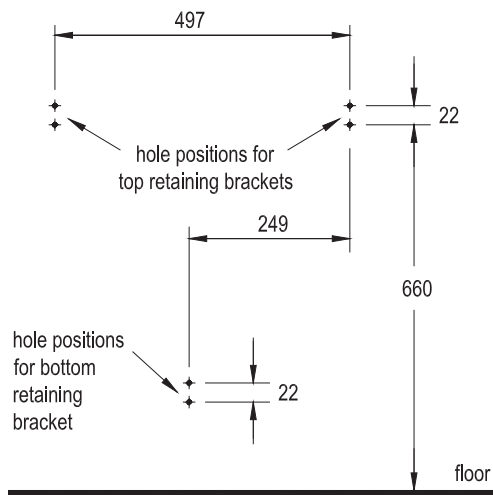

Fig. 3
2. **Fig. 3** shows the required drill hole positions. Using a straight edge draw a horizontal line for the top brackets at the required mounting height from the floor. On this line mark off the fixing centres at 497mm.